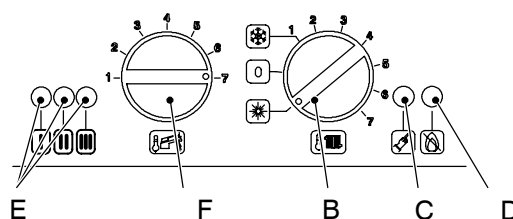

Fig. 11.4
- 6 Set the function knobs as illustrated in Fig. 11.4.
- 14 Set the function knob B as indicated in Fig. 11.4. The appliance operation light on the left will flash every 4 seconds.
- 15 Keep pressed the reset button *C* for about 10 seconds (Fig. 11.4) until the lock-out signal lamp *D* blinks.